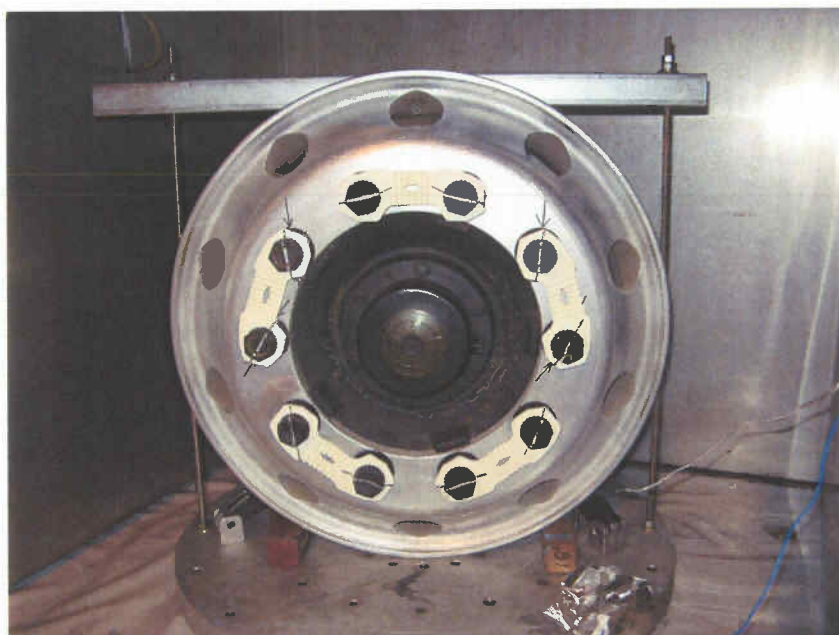
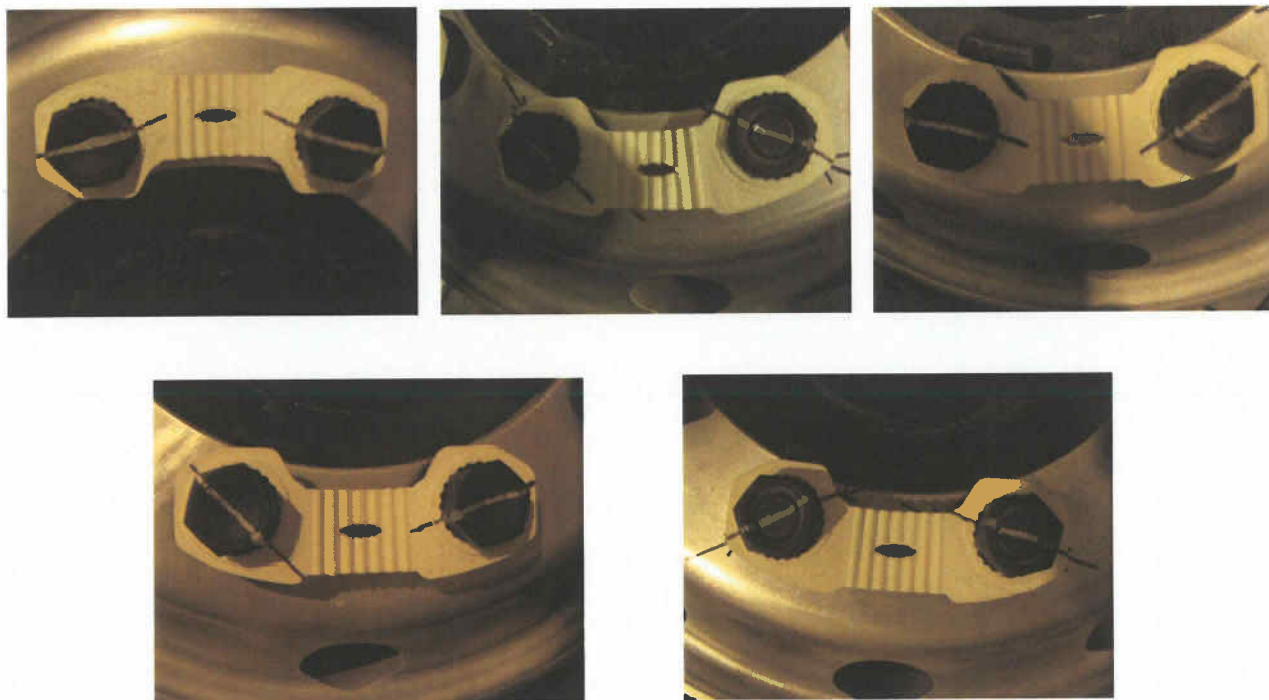
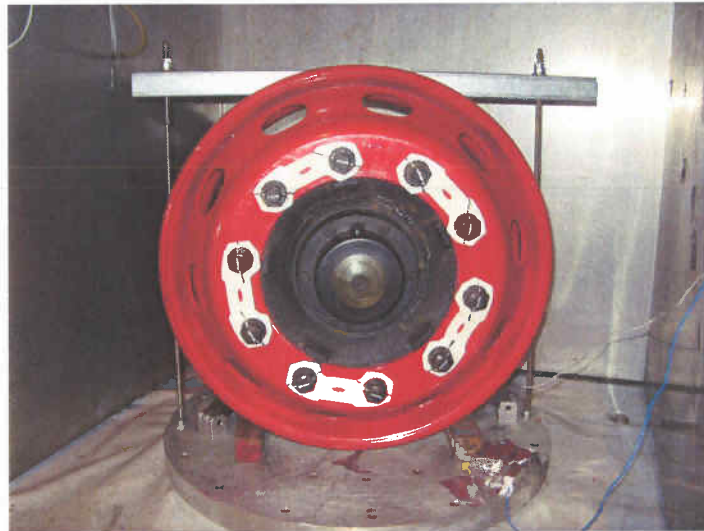
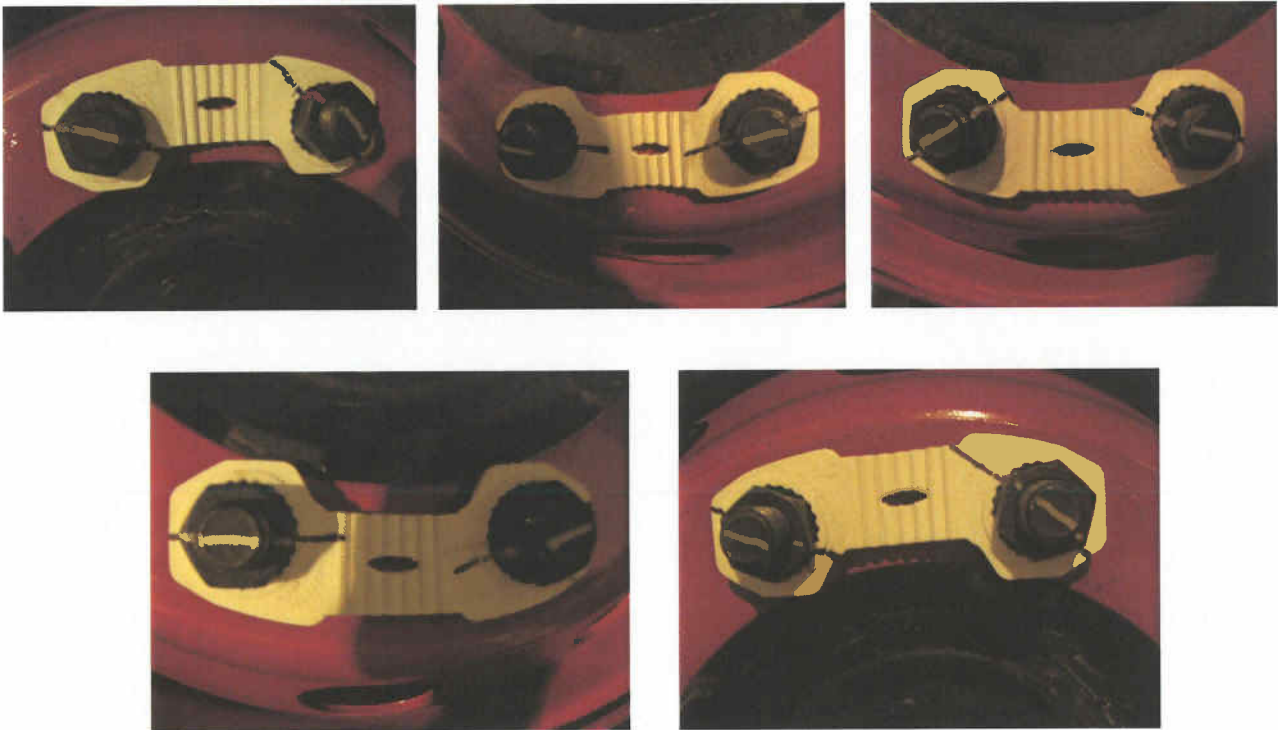

Figure 1A
Figure 2A
Figure 5A
Figure 6A
The vibration at temperature tests were performed on a vertical motion *THERMOTRON DS-640* shaker table situated inside a *THERMOTRON* thermal chamber. The wheel was attached to the vibration platform with its vertical axis parallel to the vibration platform's thrust direction. Hence, the sample was vibrated in the vertical direction (Z axis), as shown in Appendix A, Figure 1A and Figure 5A. One accelerometer which provided the control signal was attached to the vibration platform in thrust direction.
1. 26" Alloy Rim, prior to vibration testing: Figure 1A and Figure 2A,
3. 26" Steel Rim, prior to vibration testing: Figure 5A and Figure 6A,